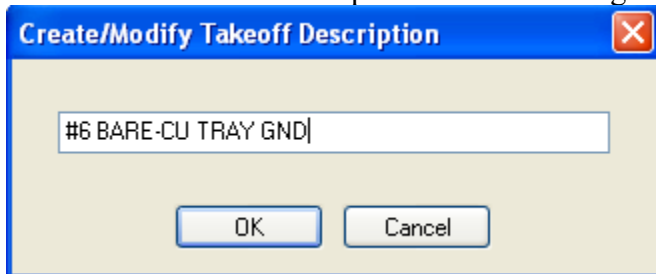

Figure 18
31. Edit the Takeoff Description as shown in Figure 18 and click OK.